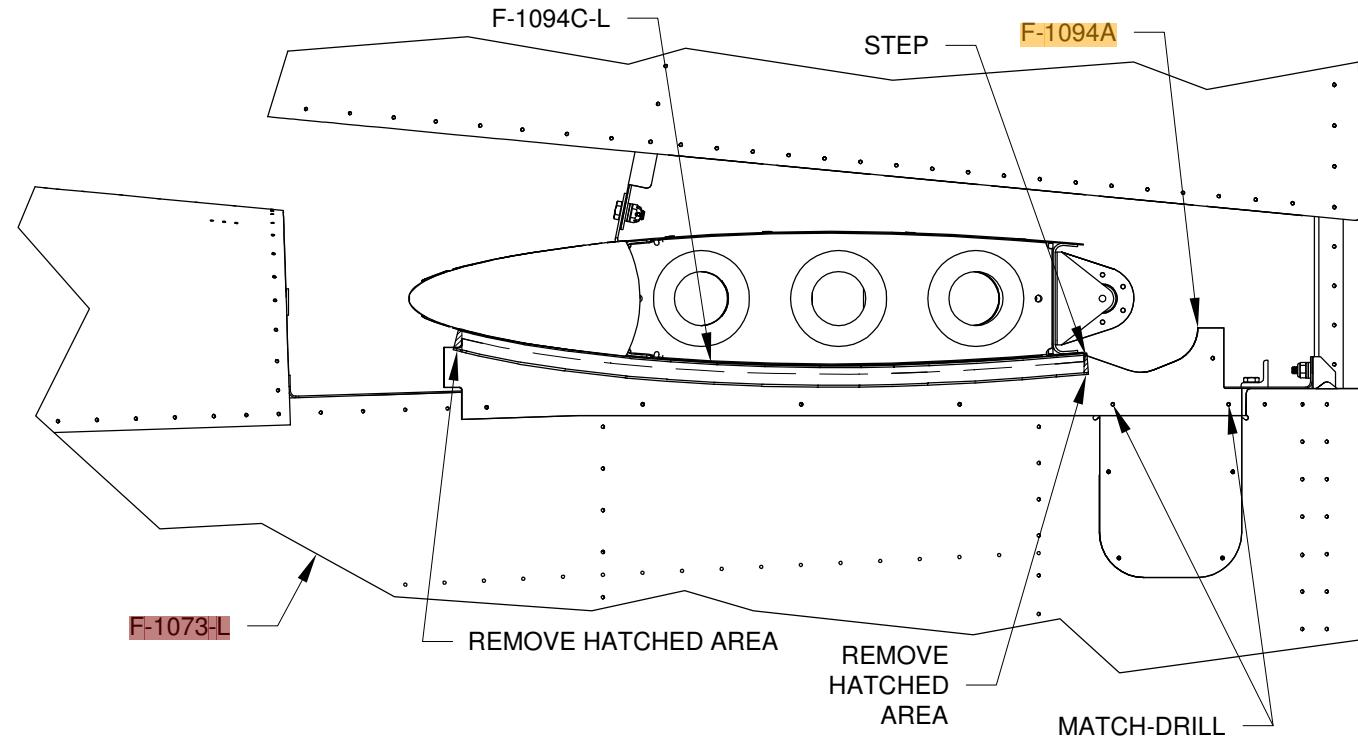

FIGURE 3: FITTING THE GAP SEAL AND GAP FAIRING
Step 7: Mark and trim the aft edge of the F-1094C Gap Seal parallel with the step (see Figure 3) in the **F-1094A** Empennage Gap Cover. The F-1094C Gap Seal has been created oversize to account for material shrinkage over time. Compress the gap seal onto the **F-1094A** Empennage Gap Cover as shown in Figure 3 leaving just enough material to properly trim the forward end of the gap seal. Mark and trim the forward edge of the gap seal as shown in Figure 3. This will create F-1094C-L.
Step 8: Install the **F-824B** Cover Plate on the tailcone assembly, using at least two of the four lower attach holes. Cleco the **F-1094A** Gap Cover to the tailcone assembly (the holes were left open in the Section 10 Tailcone Assembly). See Figure 3.
Step 9: Match-Drill #40 the aft two lower holes indicated in Figure 3 in the **F-1094A** Empennage Gap Cover into the **F-824PP** Cover Plate and **F-1032-L** Tailcone Longeron Left.